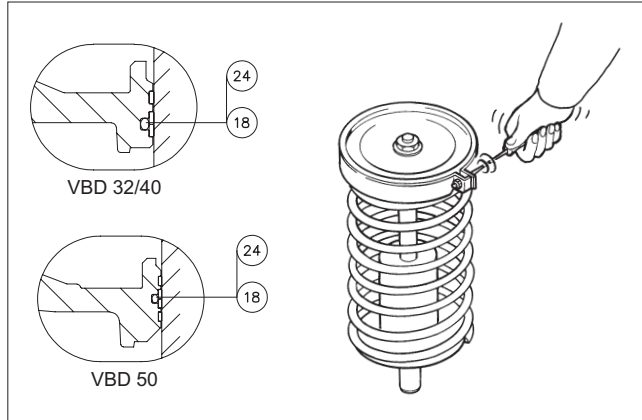
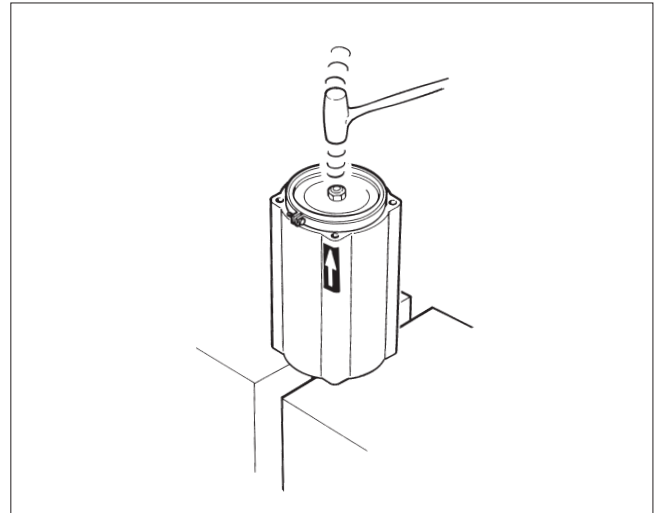

Fig. 7 Tightening piston seals with a tie ring
Fig. 8 Placing the piston into cylinder pipe
- Apply VCI-369 to O-ring groove on the piston (9).
- Use tie ring to assemble the piston ring (24) to the prefabricated spring package. Refer to Fig. 7.
- Lubricate seal space, inner surface of bearing (2) and new O-rings with Unisilikon L250L or equal silicone grease.
- Put the bearing (2) and new O-rings (16) into the cylinder base (6).
- Mount the cylinder pipe (8) to the cylinder base (6).
- Fasten the VB 32 screw (31) or VB 40/50/60 stud (31) and hexagon nut (45) on the cylinder base (6).
- Press the prefabricated spring package into the cylinder pipe (8). Refer to Fig.8.
- Make sure that piston rod (10) is not scratched.
- Mount the cylinder end (44) to the cylinder pipe (8).
- Fasten the VB 32 screw (31) or VB 40/50/60 stud (31) and hexagon nut (45) on the cylinder end (44).
- Mount the yoke (1) on the cylinder base (6).
VB_60 handwheel is loaded on the top of cylinder. Refer to Fig. 8.